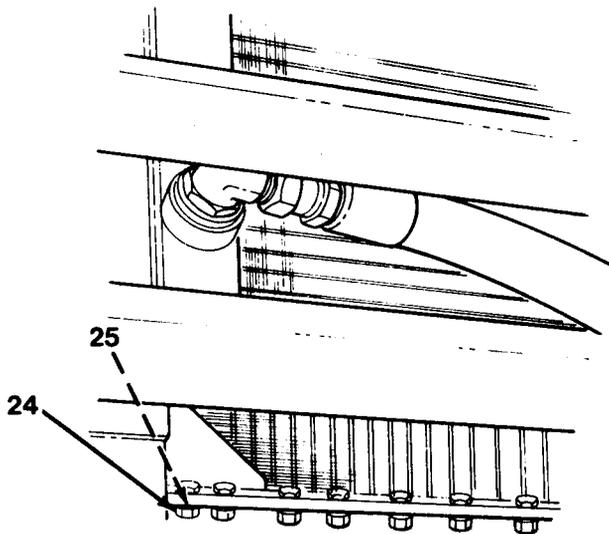

Figure 9-9
12. Remove two nuts (24) and spacers (25, Figure 9-9) from studs on bottom of radiator under frame.